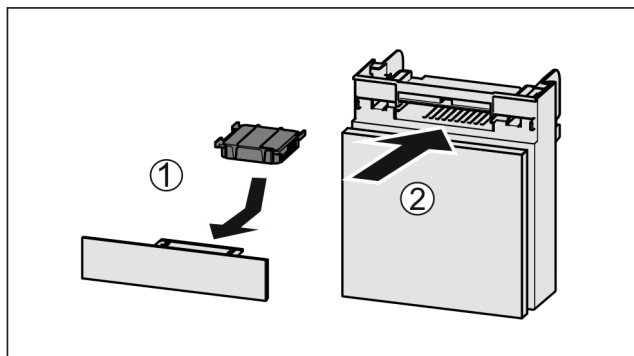

Fig. 137
- Insert the carbon filter as shown in the diagram Fig. 137 (1).
- Push the compartment in Fig. 137 (2).